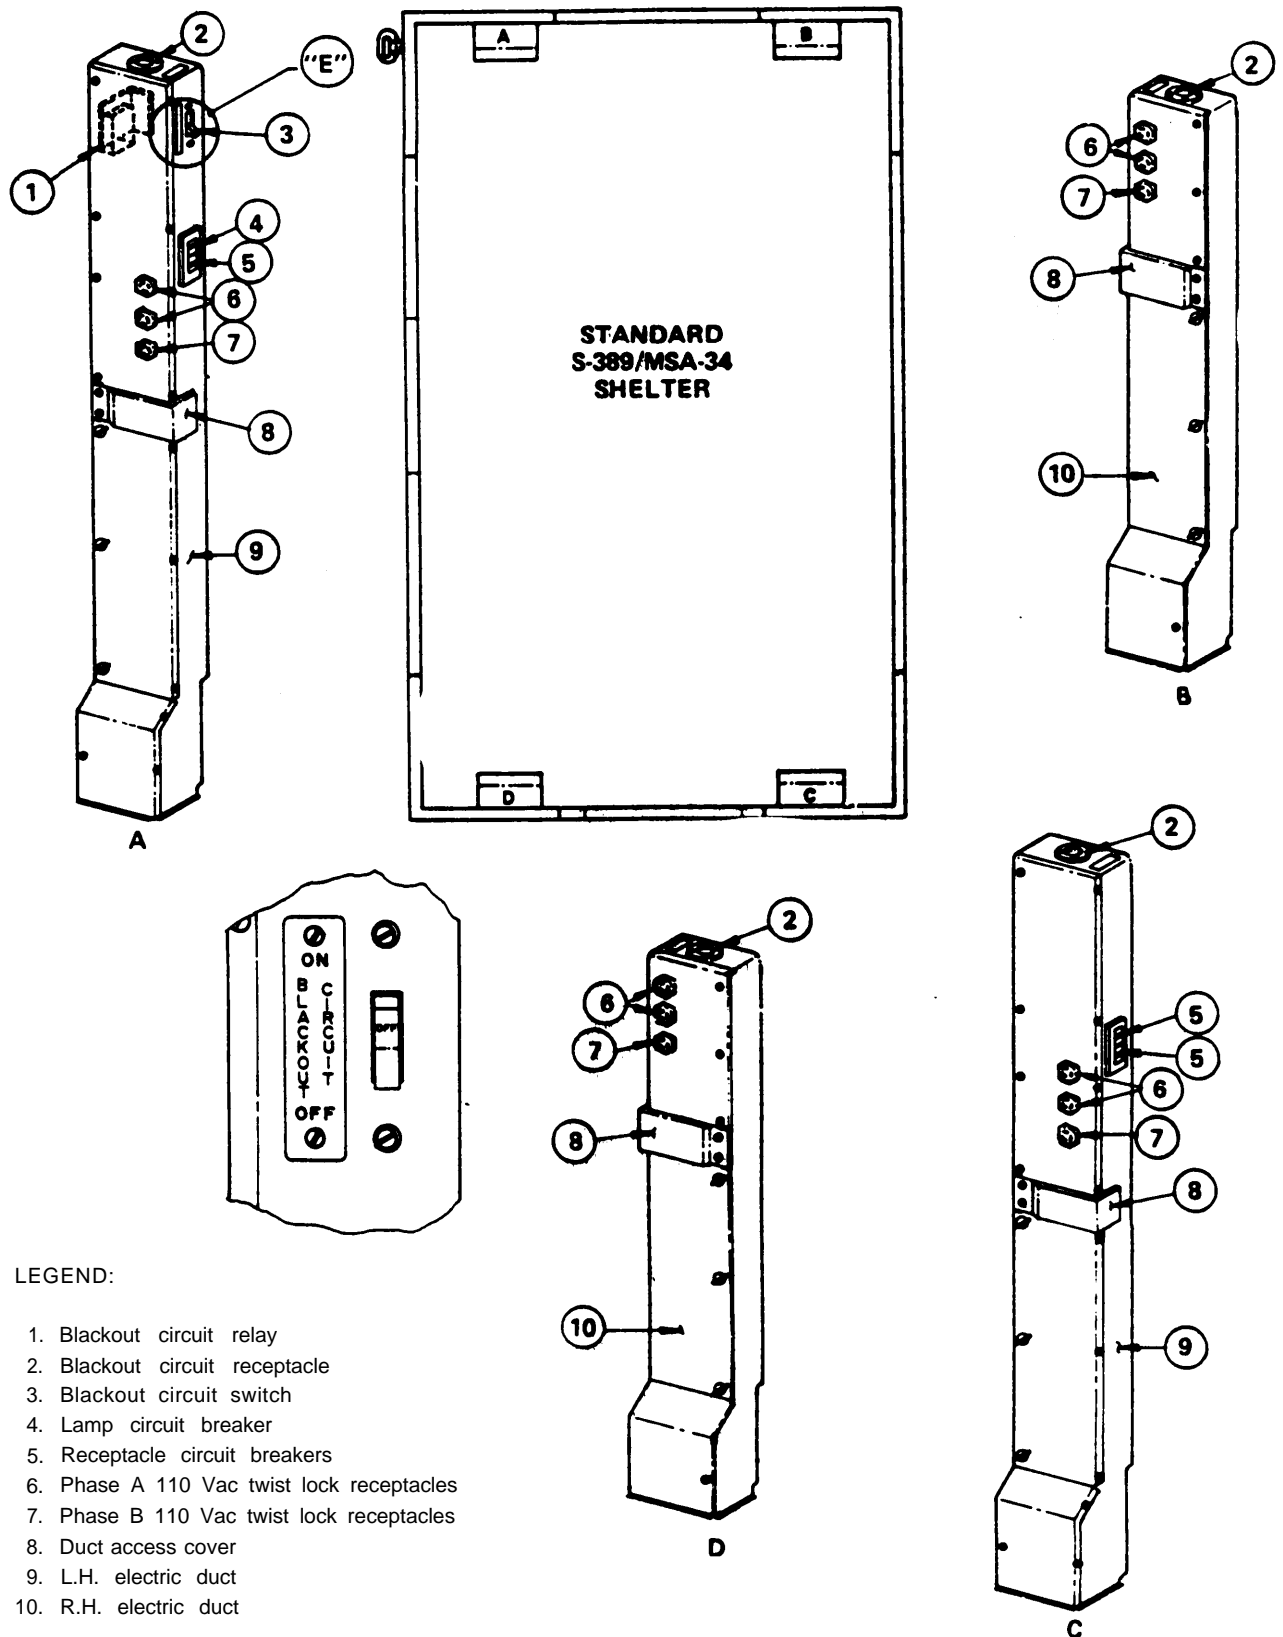
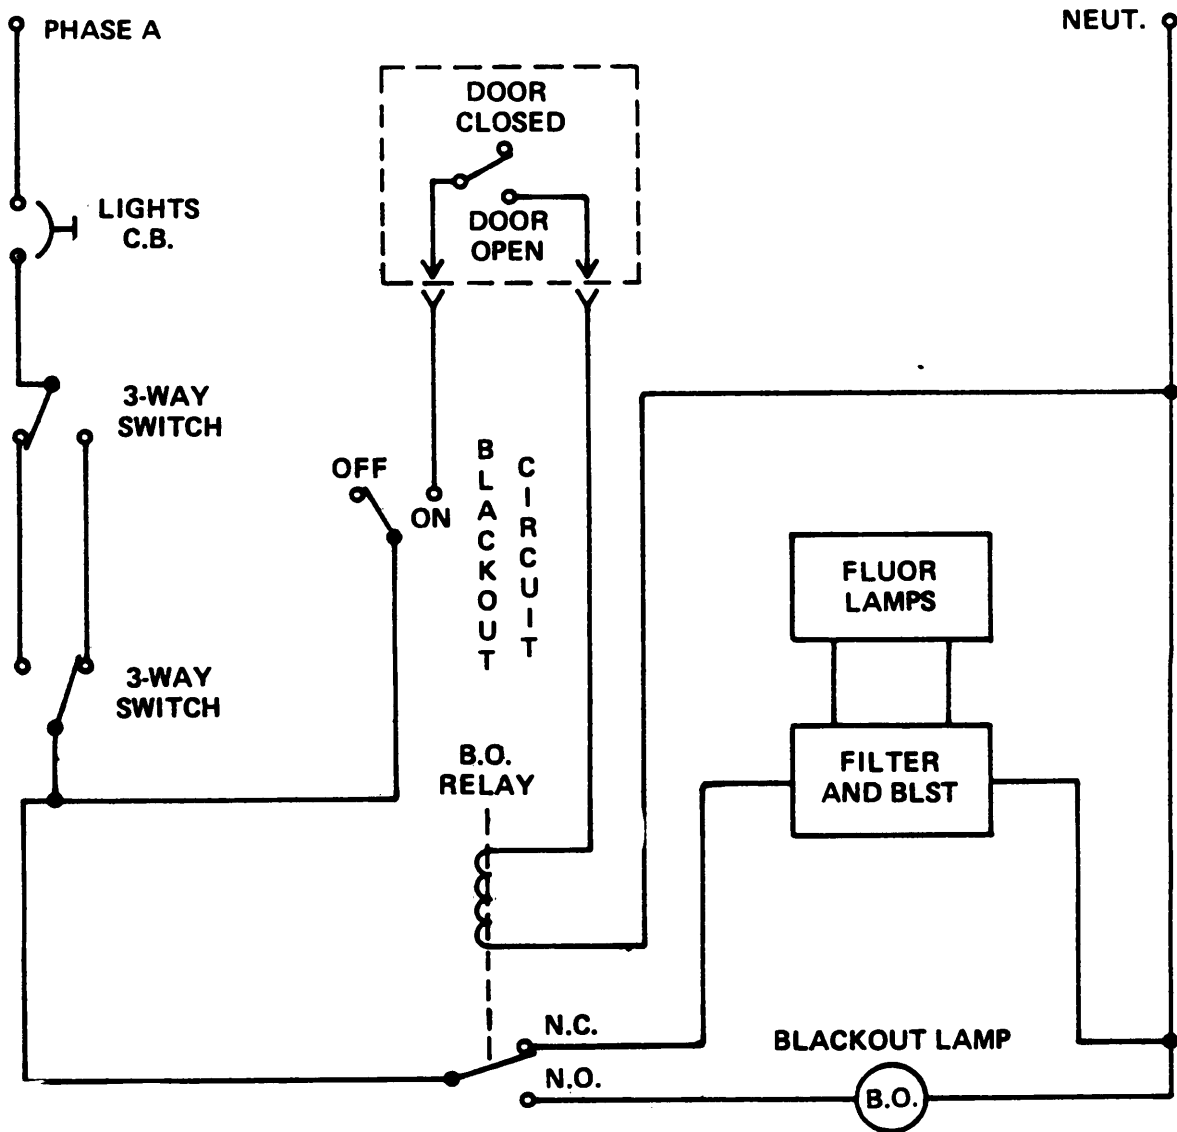
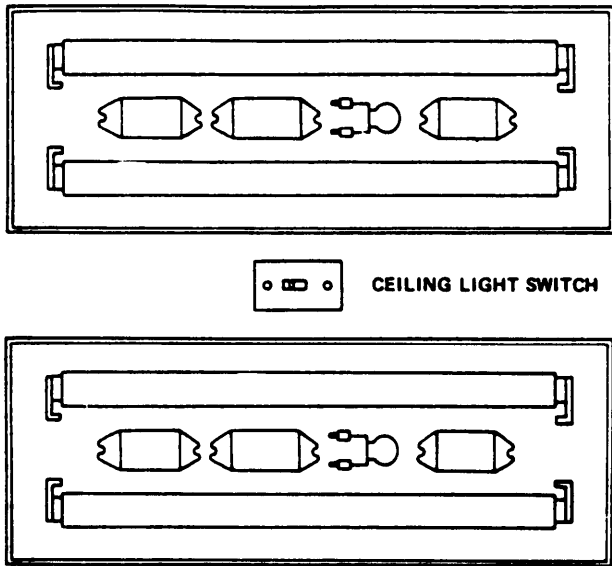

Figure 1-4. Electrical Cable Ducts
Figure 1-5. Shelter Blackout Lighting Circuit Schematic
Figure 3-1. Ceiling Light Pairs.
f. Electrical System. Vertical electrical ducts (fig. 1-4) in each end corner of the shelter house the switching for the electrical system. Three convenience receptacles are located in each vertical duct. Power is routed through the vertical ducts at one end, down into cross ducts within the shelter floor, through the center skid, and back into the cross and vertical ducts at the other end. Covers in the floor at either end provide access to the cross ducts and skid. Four fluorescent light units (fig. 1-3), recessed in the ceiling, provide interior lighting. The lights are controlled by switches in a three-way circuit which allows on/off control from either end of the shelter. The shelter is provided with a blackout lighting system (fig. 1-5). A plug-in actuator at either door of the shelter turns the ceiling lights off and the blackout light on when a door is opened. A grounding lug is located at each end of the shelter.
3-2 NORMAL LIGHTING CIRCUIT. The shelter is provided with two ceiling light switches mounted in the ceiling at each end of the shelter between the ceiling light pairs (fig. 3-1). The two switches are part of a three-way light switching circuit, permitting lights to be turned on or off from either end of the shelter. A circuit breaker switch is provided on one of the electrical ducts to cut off power from the lighting circuit (see fig. 1-4).
3-3 BLACKOUT LIGHTING CIRCUITS. A plug-in actuator consisting of a micro-switch is installed in each door and is plugged into one of the four blackout (BO) receptacles (fig. 1-4) located at the top of the electrical ducts. The BO electrical circuits are controlled by a master ON/OFF BO circuit breaker switch. This switch must be in the ON position to energize the BO circuit which controls automatic switching from normal lighting to BO lighting.
3-4 CONVENIENCE RECEPTACLES. The shelter is provided with four sets of plug-in convenience receptacles (fig. 1-4) with three receptacles grouped on each electrical duct. The receptacles are overload-protected by circuit breakers.
3-5 CIRCUIT BREAKERS. Four 40-ampere (switch-type) circuit breakers are provided for circuit overload protection (fig. 1-4). One circuit breaker controls power to the normal light circuit and the remaining three control power to the four convenience receptacles.